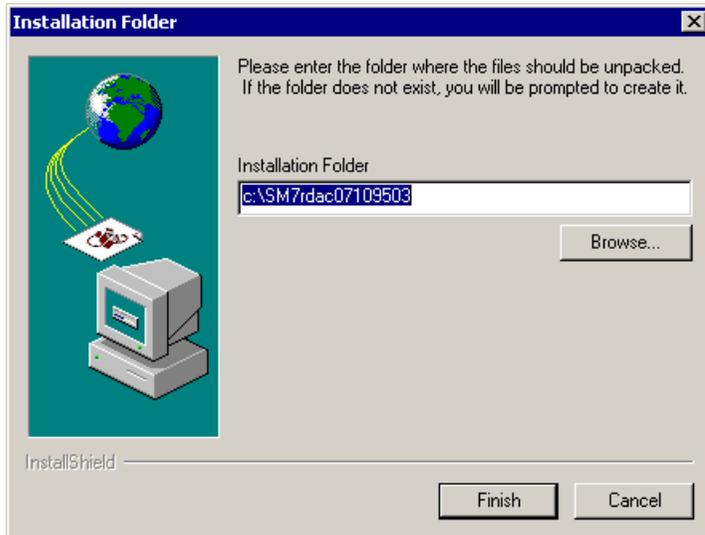

Figure 5-6 Installation Folder window
1. Run the downloaded installation package. In our example, the file name was SM7rdac-2000-07109503.exe. The Installation Folder window is displayed, as shown in Figure 5-6: